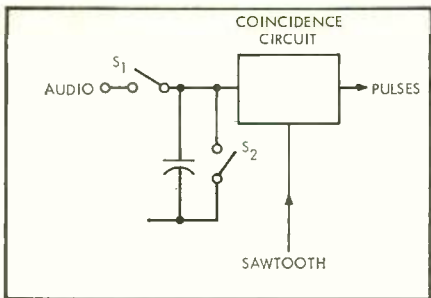

Fig. 5. Block diagram of circuit for producing periodic length-modulated pulses.
It is easy enough to draw a block diagram of the circuit we need to produce periodic length-modulated pulses. We have a sawtooth generator, and a coincidence circuit, such as a long-tailed pair. At the critical instant of the sawtooth, marked X in (D) of Fig. 4, we operate the switches shown in Fig. 5 in a special order. First we close S_2 to discharge the capacitor, although we can